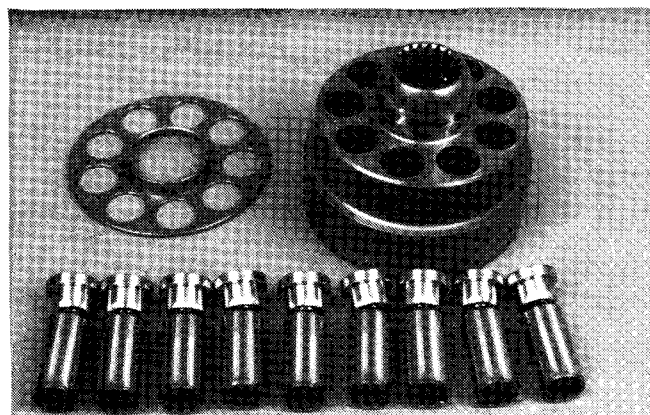

Figure 47
8. Remove the slipper guide and piston assemblies from cylinder blocks (Fig. 47).